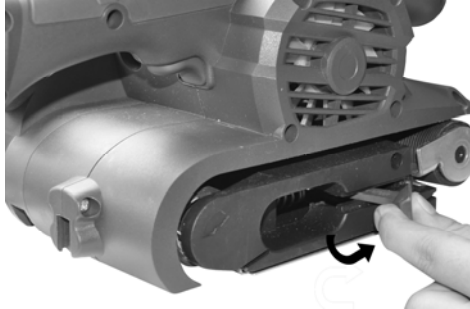

Fig.1
1. Pull out the belt tension lever. (Fig.1)